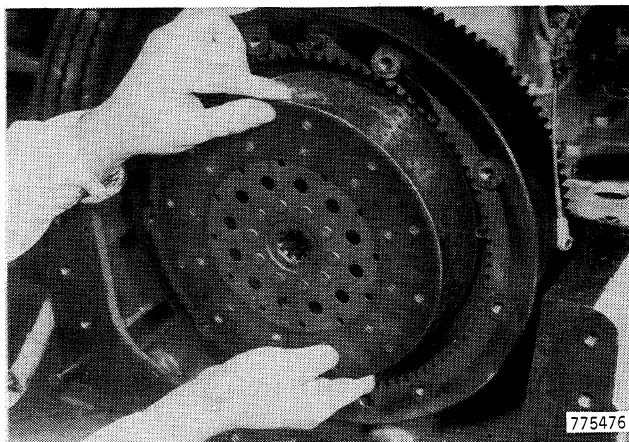

Figure 111
- 16. Install the inner clutch disc with the large hub toward flywheel as shown in Figure 111.